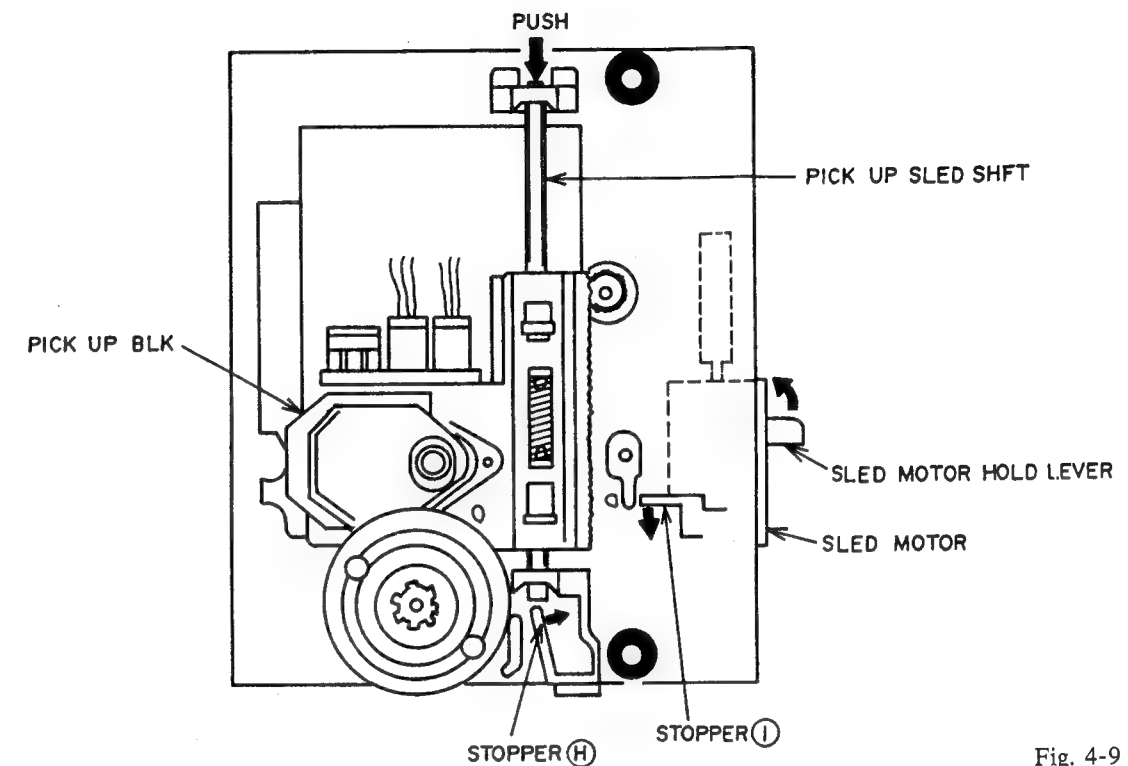

Fig. 4-9
- 1) Push PICK UP SLED SHAFT while releasing the STOPPER ⑧ as shown Fig.4-9 and pull out the PICK UP SLED SHAFT, then remove PICK UP BLK.